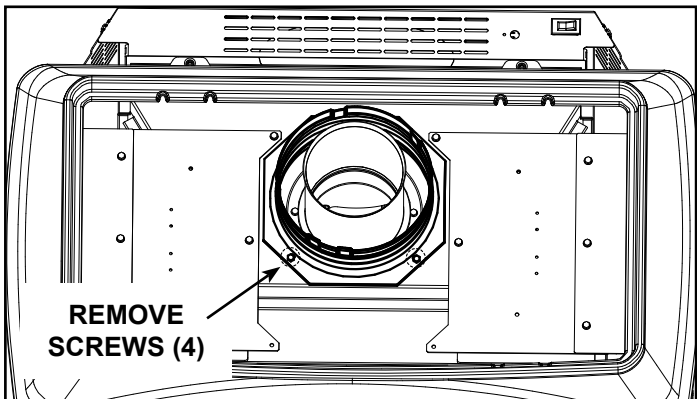
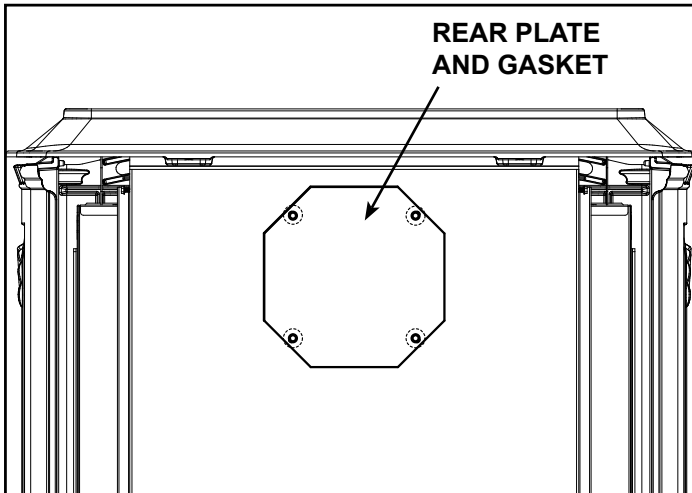
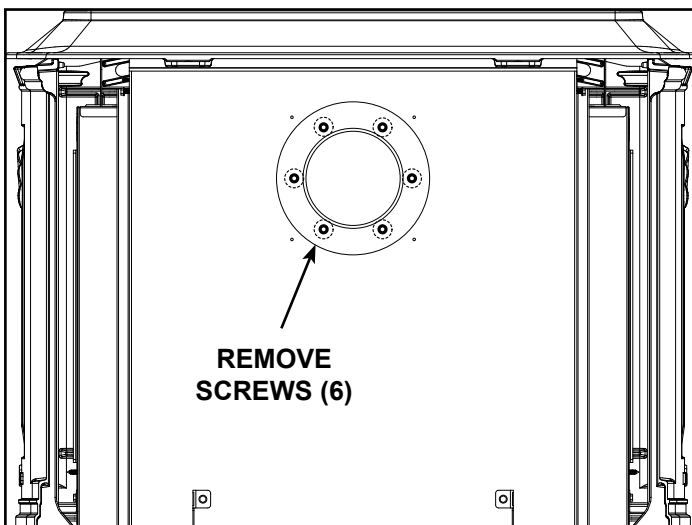
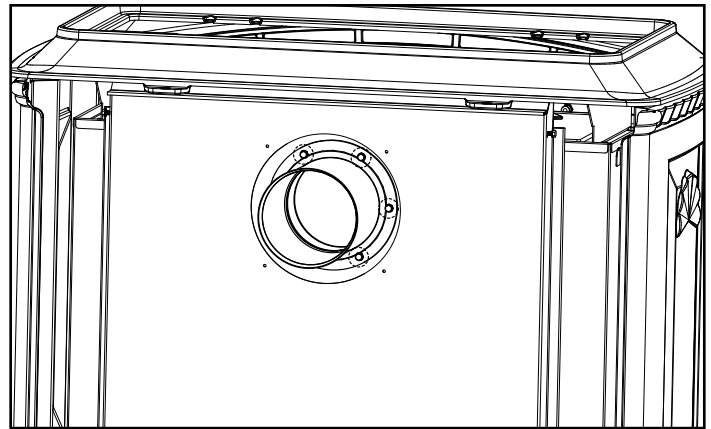

Figure 6.2
Figure 6.5
Figure 6.7 Remove Screws Under Rear Access Plate
Figure 6.8 Attach inner collar adapter to rear flue vent.
2. Remove starting collar and gasket by removing 4 screws. See Figure 6.2. Save the screws. (If gasket breaks, apply high-temp sealant to bottom of collar before installing as shown in Figure 6.8.)
6. Place rear access plate and gasket over top vent and attach with the four screws removed in Figure 6.2.
7. Remove six screws under the rear access plate removed in Figure 6.5. See Figure 6.7. Install inner pipe adapter and new gasket (included with kit) using six screws. See Figure 6.8.
8. Install starting collar with gasket or high-temp sealant to rear vent opening. Attach with screws removed in Figure 6.5.